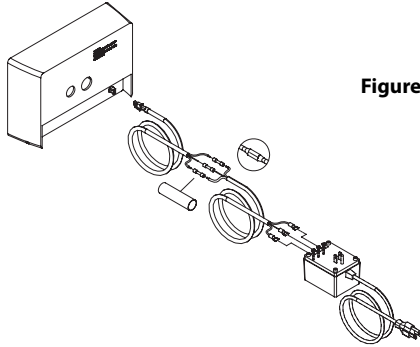

Figure 6
- Connect the wire to the transformer. Insert the other end of the wire, with the connector, into the back of the control box (see figure 6).